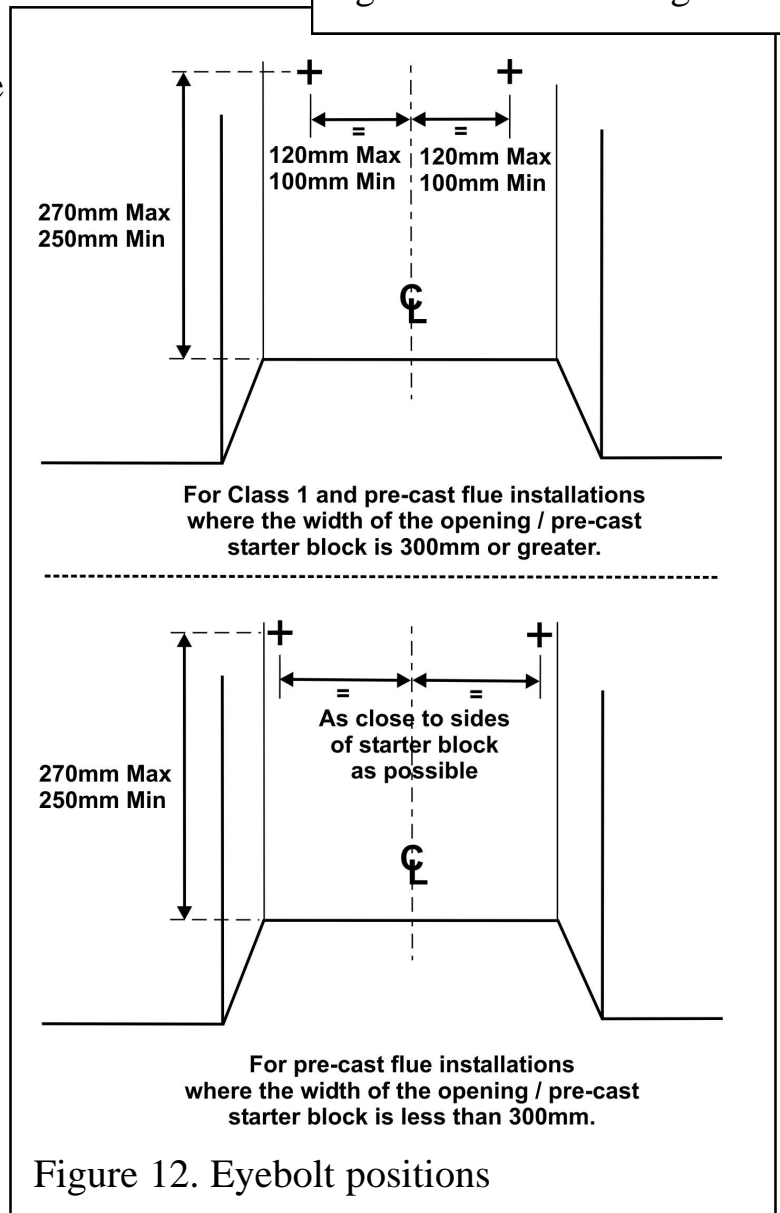

Figure 12. Eyebolt positions
2. Drill two holes in the rear wall of the fireplace for the eyebolt plugs. The holes should be drilled within the range of positions shown in figure 12 using a no.12 masonry drill. The holes should be equidistant each side of the centre line of the fireplace to ensure that the appliance finishes centrally in the opening when tension is applied to the cables.